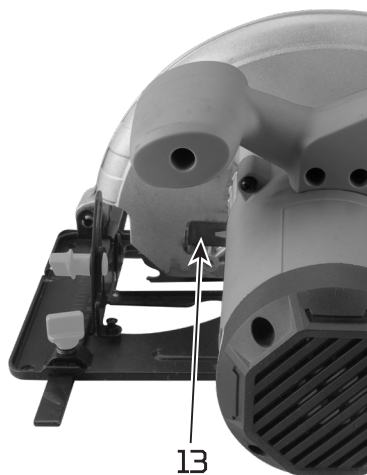

Fig. 3
2. Push the spindle lock button (13) toward motor housing as the arrow shows in fig. 3 and firmly hold it.
3. Turn the blade clamp bolt (11) anti-clockwise.
4. Remove the blade clamp bolt and outer flange (10).
5. Raise the lower guard (12) by using the lever for